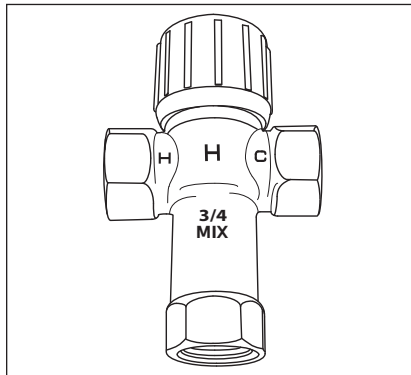

Figure 8 - Thermostatic Mixing Valves installed at each point-of-use can help avoid scalding.
- Point-of-use Thermostatic Mixing Valves (Figure 8 on page 8)
Install Thermostatic Mixing Valves (Figure 8) to regulate the temperature of the water supplied to each point-of-use (for example, the kitchen sink, bathroom sink, bath and shower). Consult the valve manufacturer’s instructions or a qualified person.
⚠ WARNING! Even if the water heater thermostat is set to a relatively low temperature, hot water can scald. Install Thermostatic Mixing Valves at each point-of-use to reduce the risk of scalding (see page 4 and Figure 8).